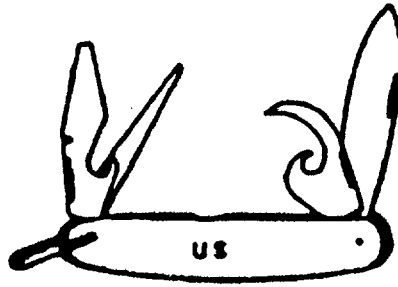

Figure 2-36. Pocket Knife
- n. Pocket Knife. The pocket knife (See Figure 2-36) is used as an aid in cleaning fish or small game and for light cutting, such as shelter material and twigs for game traps.